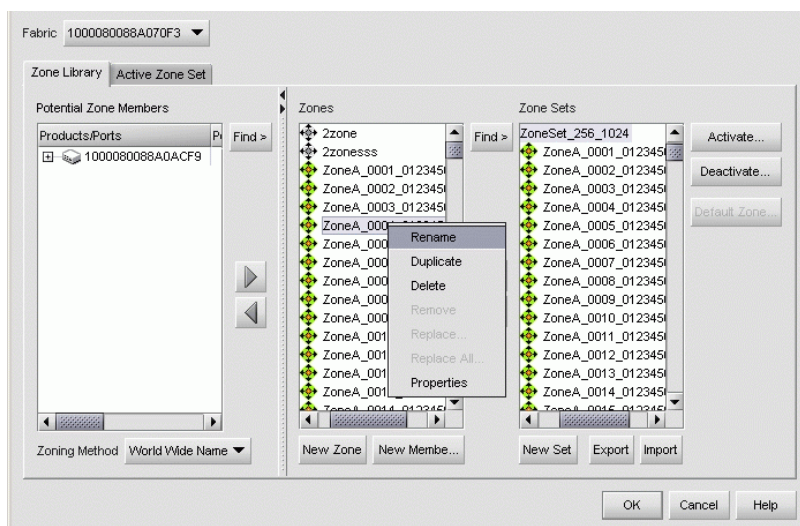

Figure 3-43 Zoning Dialog Box (Zone Library Tab)
- d. Select the *Zoning* option from the menu. The *Zoning* dialog box displays with the *Zone Library* page open (Figure 3-43).
1. At the *Zoning* dialog box, click the *Zone Library* tab. The dialog box returns to the *Zone Library* page (Figure 3-43).